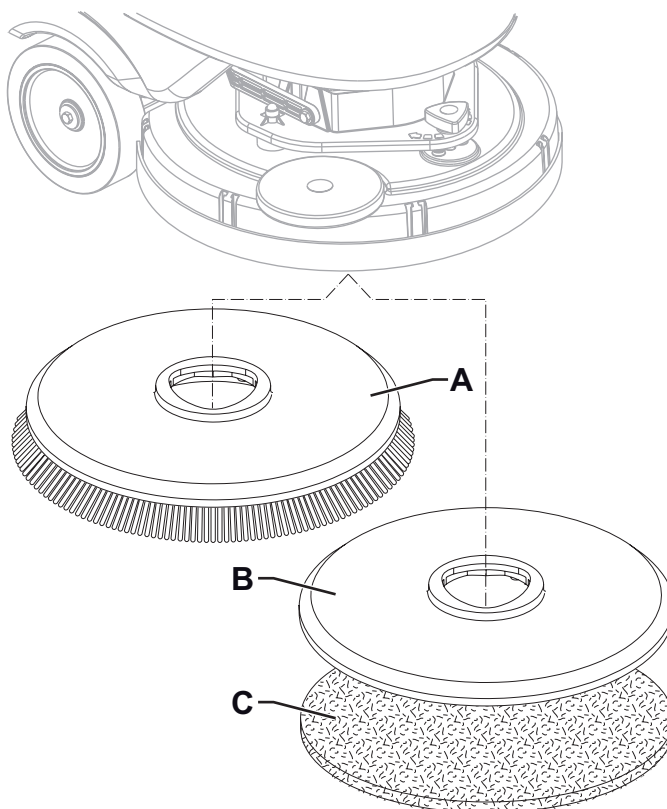

Figure 2
1. According to the kind of cleaning to be performed, the machine can be equipped either with the brush (A, Fig. 2) or the pad-holder (B) with pad (C) together with the appropriate deck.
2. Insert the operator key (41) in its slot, on the control panel (3).
3. Press the turtle push-button (46) to reduce the driving speed to idle.
4. Place the brush (A) or the pad-holder (B) under the deck (26).
5. Press the push-button (43) to lower the deck on the brush.
6. To engage the brush, press the paddle (2), then release it. If necessary, repeat the procedure until the brush is engaged.